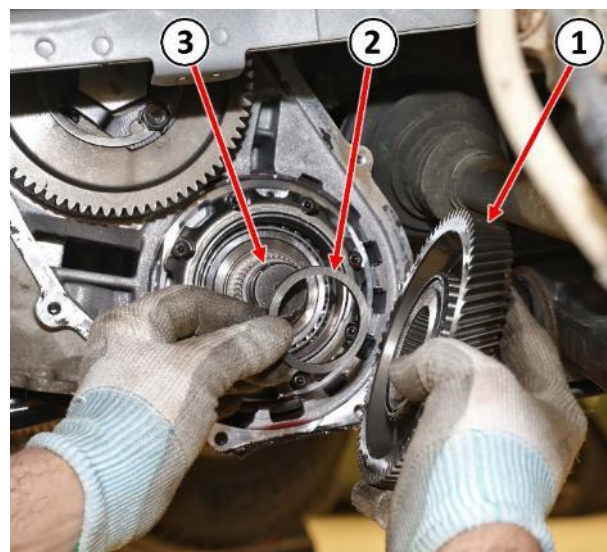

**Figure 24 – Transfer Gear and Select Shim**
36. Remove the transfer gear (underdrive compounder side) (1) and select shim (2) from the underdrive compounder assembly (3) (Figure 24).